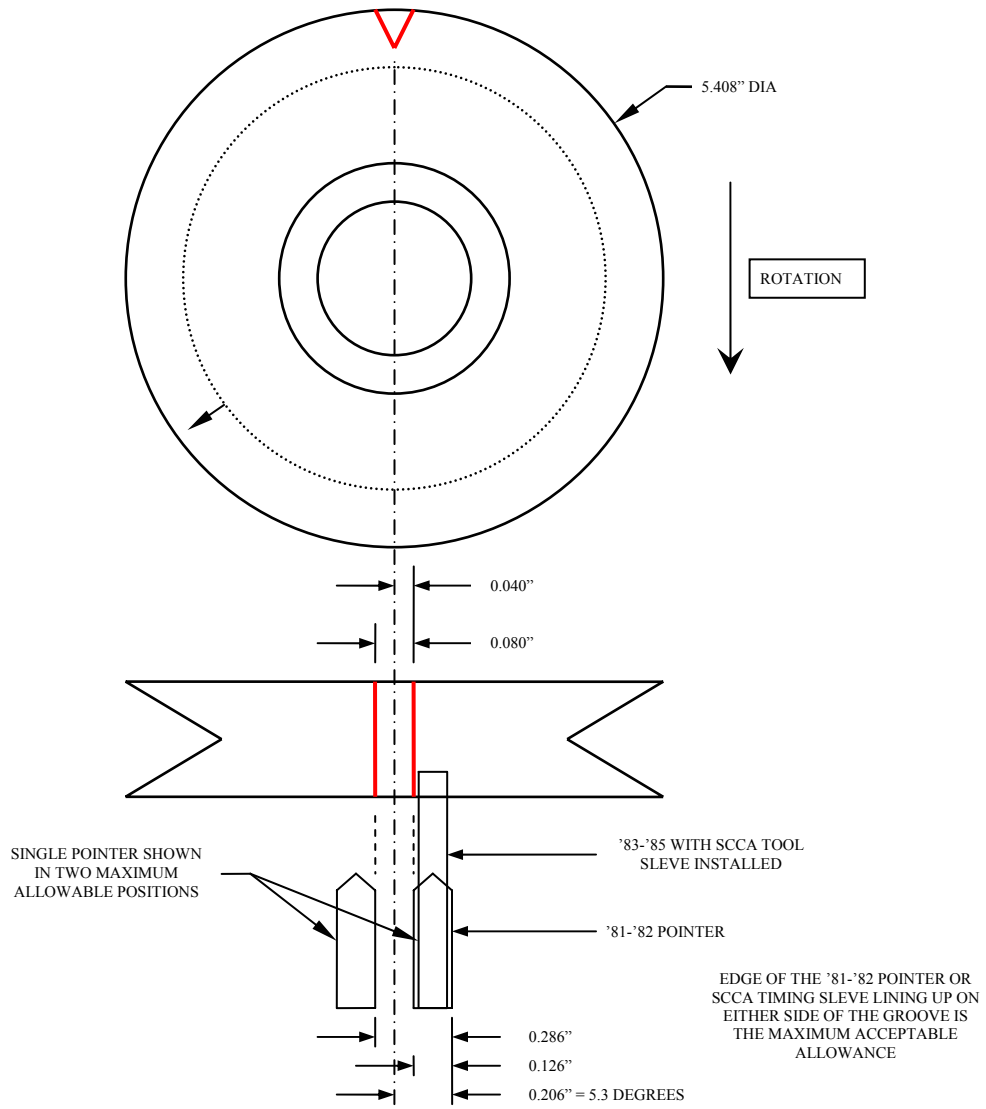

Figure 1: Ignition Timing Diagram
- d. Ignition timing shall be stock (per manufacturer's specifications). See the Ignition Timing Diagram, figure 1.